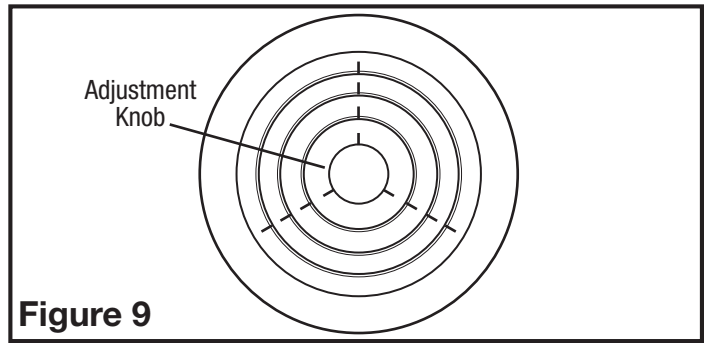

Figure 9
- 1b. **6" Inline Kits:** Locate the damper adjustment knob in the center of the grill. While pushing inward on the knob, twist the knob to adjust the damper to uncover as much of the opening as is necessary to balance the system (Figure 9).